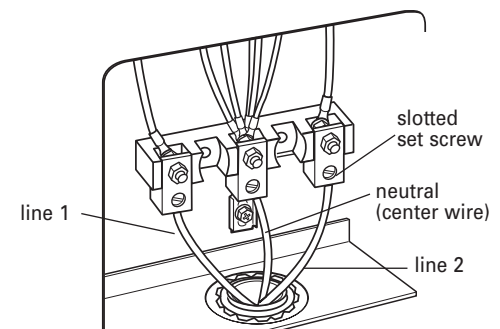

Figure 3
10. Loosen (do not remove) the 3 slotted set screws. Insert the neutral (white) wire into the hole at the bottom of the center position lug (attached to center terminal screw of terminal block). See Figure 3.
12. Securely tighten the set screws. For 8 gauge copper wire, tighten to 25 in/lbs of torque, and for 6 gauge aluminum wire, tighten to 35 in/lbs of torque to make a proper electrical connection. See Figure 3.